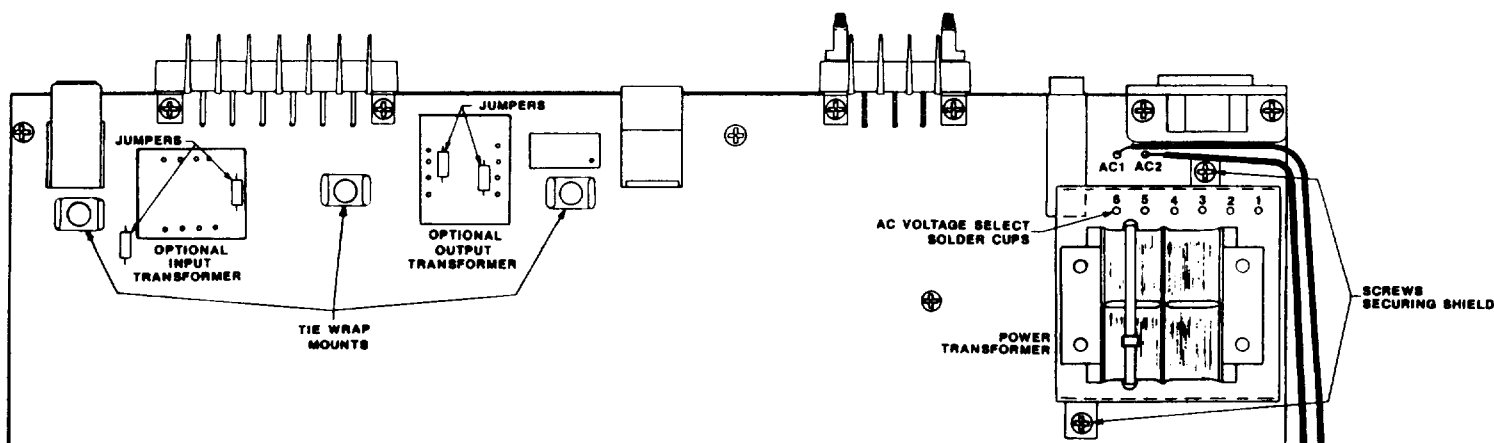

Figure 1. Location of Pertinent Components on Circuit Board.
3. Locate and remove the two screws that secure the transformer shield and remove shield. Locate the six voltage selection solder cups above the power transformer. See Figure 1 for location.
3. Locate the transformer mounting areas near the top of the circuit board. See Figure 1 for exact locations.
4. Cut two jumpers for each transformer installed. These jumpers are indicated in Figure 1.
5. Connect a balanced AC voltmeter across the output connector. Carefully adjust R7 (see Figure 1 for exact location) for an output reading of 0 dBm (0.775 Vrms across 600 ohms).